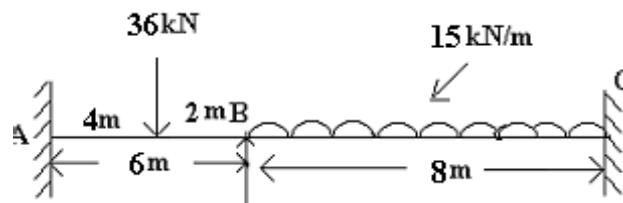

Figure 1:
6. Analyse the two span continuous beam ABC Loaded as shown in Figure 1 The ends A and C are simply supported. Use moment distribution method. Sketch the B.M. and S.F. diagram. [16]